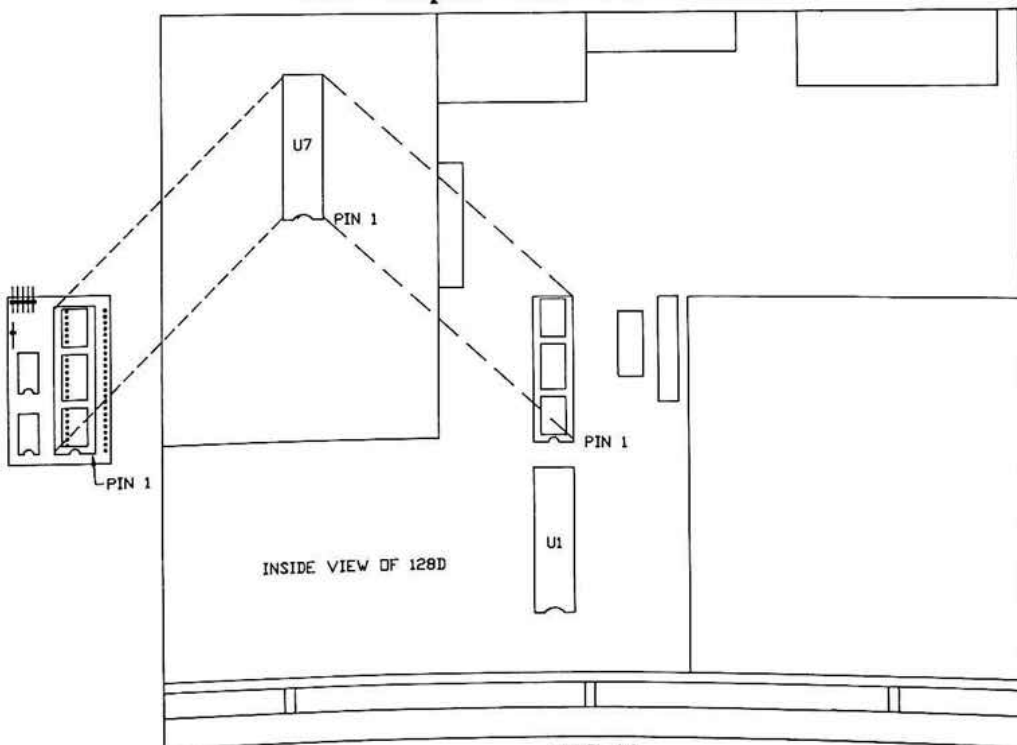

FIG 11
Step 5 - Carefully insert chip U7 into the socket provided on the 128D Adaptor Board. CAUTION: Be sure pin 1 of chip matches pin 1 of socket or indented end of chip matches indented end of socket. Refer to FIG 11.